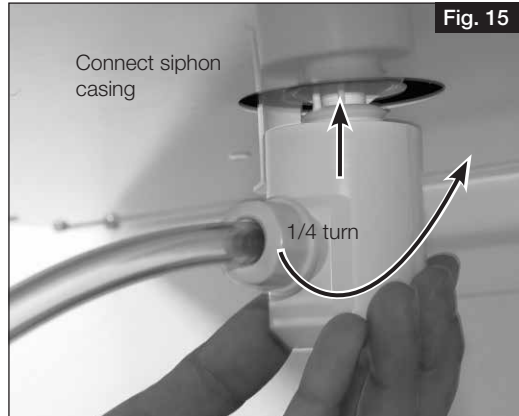

Fig. 15
- Connect siphon casing and turn a 1/4 turn in the mounting part (see Fig. 15). Ensure that the float ball is loose in the casing!